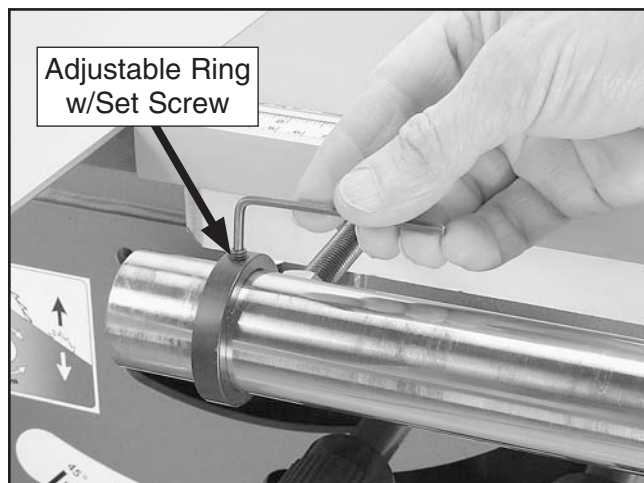

Figure 41. Securing the adjustable ring.
34. Set the rip fence to 1/8", slide the adjustable ring with set screw on the round rail against the fence housing. Without moving the ring, move the fence housing out of the way, and secure the set screw on the ring, as shown in **Figure 41**. When installed correctly, this ring will prevent the fence from contacting the blade.